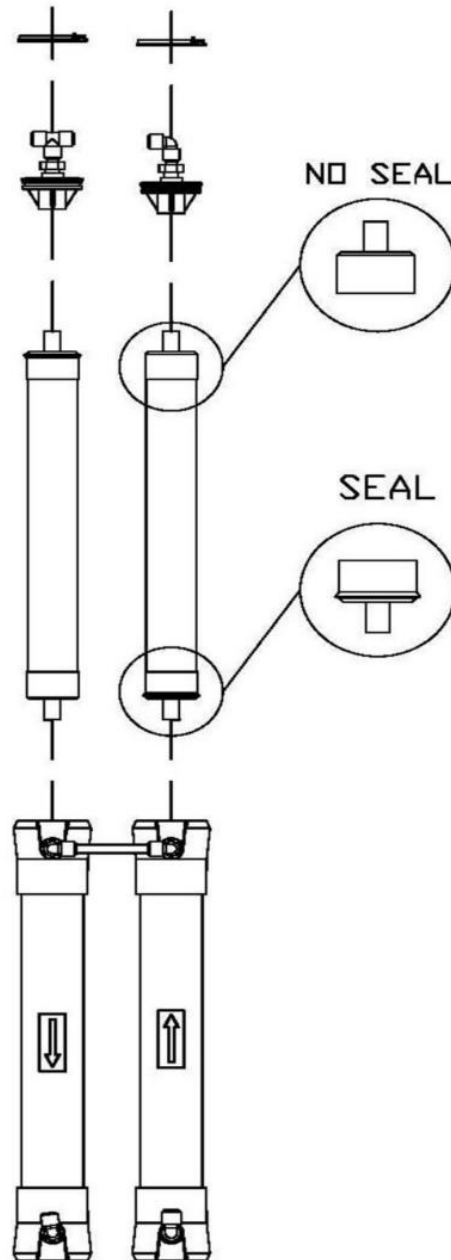

FIGURE 2
3. Install the brine seal side of the membrane element first. When the housings have a direction of flow from bottom to top, the brine seal should be located at the bottom of the housing. (Figure 2, Page 21)